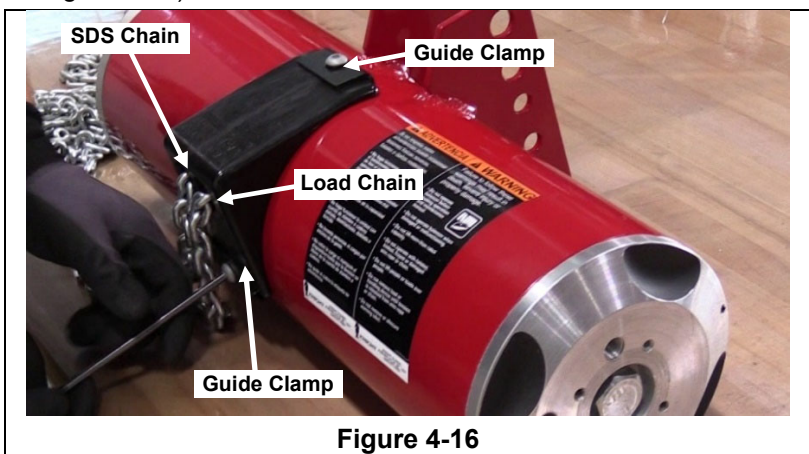

Figure 4-16
- Step 7. Remove (2) chain guide clamps and chain guide by removing the two bolts. (See Figure 4-16)
Step 21. Reinstall chain guide and (2) chain guide clamps. (See Figure 4-16)